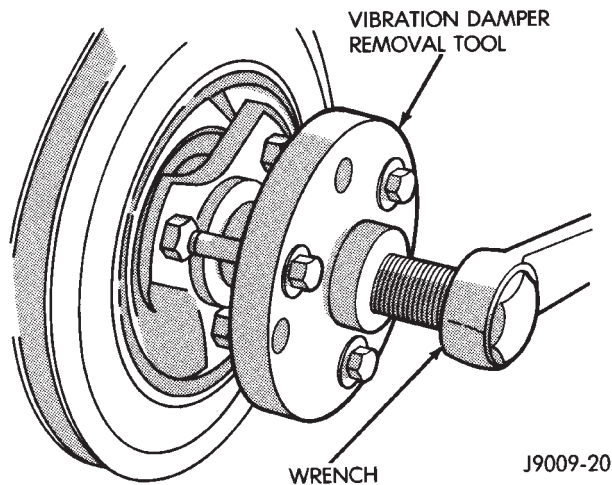

Fig. 1 Vibration Damper Removal Tool 7697
- (1) Disconnect negative cable from battery.
- (2) Remove the serpentine drive belt and fan shroud.
- (3) Remove the vibration damper retaining bolt and washer.
- (4) Use Vibration Damper Removal Tool 7697 to remove the damper from the crankshaft (Fig. 1).
- (2) Remove the vibration damper (Fig. 1).
- (3) Remove the fan and hub assembly and remove the fan shroud.
- (4) Remove the accessory drive brackets that are attached to the timing case cover.
- (5) Remove the A/C compressor (if equipped) and generator bracket assembly from the engine cylinder head and move to one side.
- (6) Remove the oil pan-to-timing case cover bolts and timing case cover-to-cylinder block bolts.
- (7) Remove the timing case cover and gasket from